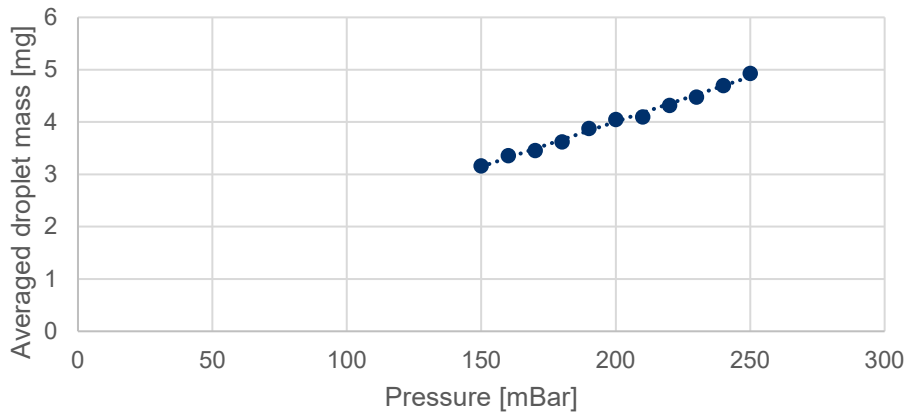

Figure 7. Droplet mass vs reservoir pressure  $P_r$  for water
- Increase in dose with increased reservoir pressure. This trend is shown in more detail in Figure 7